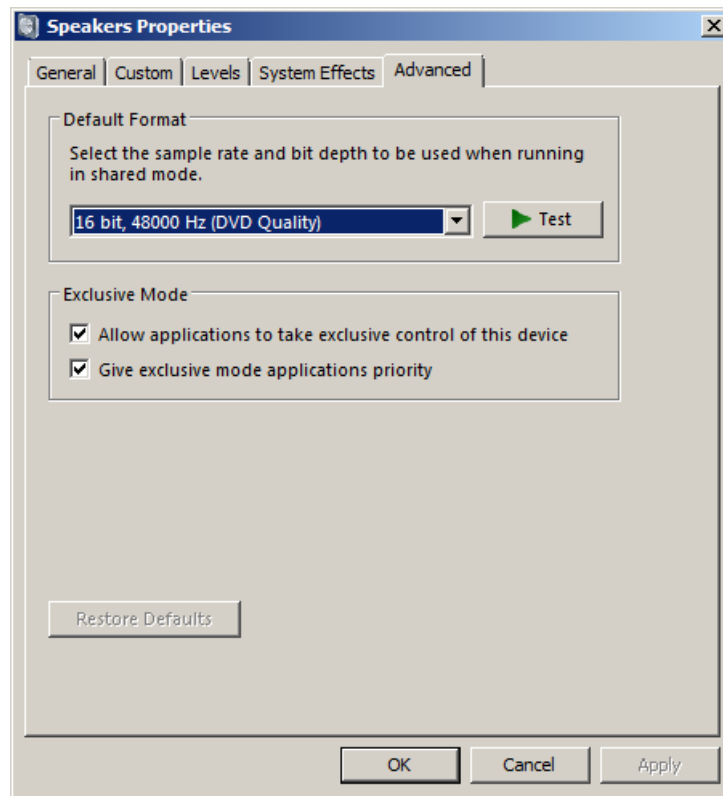

Figure 4.11 Setting the native bit resolution and sampling rate in Vista
- 4) Click on the tab 'Advanced' to set the channel resolution and a sample rate (as in Fig. 4.11)